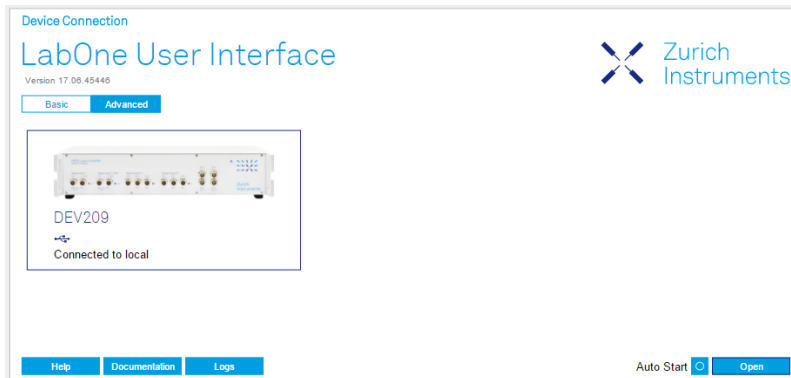

Figure 1.10. Device Connection dialog
4. You can now start the LabOne User Interface as described in Section 1.5.2 and choose an instrument to connect to via the Device Connection dialog shown in Figure 1.10.
After starting LabOne, the Device Connection dialog in Figure 1.10 is shown to select the device for the session. The term session is used for an active connection between the user interface and the device. Such a session is defined by device settings and user interface settings. Several sessions can be started in parallel. The sessions run on a shared LabOne Web Server. A detailed description of the software architecture can be found in Section 1.5.1.
In this case the browser is no longer able to connect to the LabOne Web Server. This can happen if the Web Server and Data Server run on different PCs and a network connection is interrupted. As long as the Web Server is running and the session did not yet time out, it is possible to just attach to the existing session and continue. Thus, within about 15 seconds it is possible with **Retry** to recover the old session connection. The **Reload** button opens the Device Connection dialog shown in Figure 1.10. The figure below shows an example of the Connection Lost dialog.
If a session error cannot be handled, the LabOne Web Server will restart to show a new Device Connection dialog as shown in Figure 1.10. During the restart a window is displayed indicating that the LabOne User Interface will reload. If reloading does not happen the same effect can be triggered by pressing F5 on the keyboard. The figure below shows an example of this dialog.